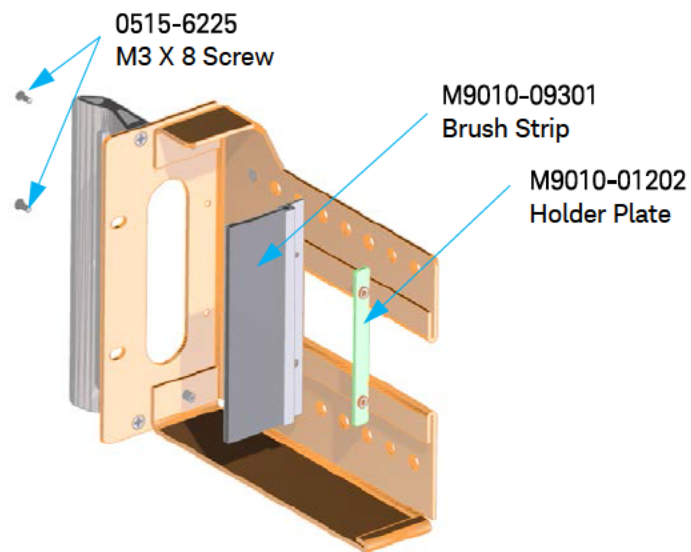

Figure 5 Install Brush Strip to Front Brackets (Right Bracket Shown)
- 2 Assembly Brush Strip (M9010-09301) to Left and Right Front Brackets (M9010-00200, M9010-00201). Use two 0515-6225 (M3X8) Screws and Holder Plate (M9010-01202) to attach each Brush Strip to each bracket. See Figure 5 below.